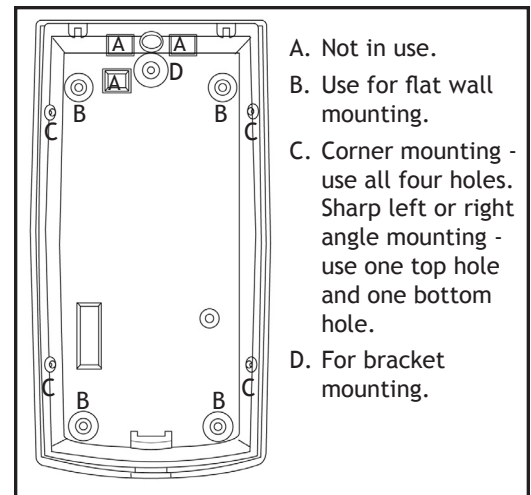

Figure 4: Knockout Hole Locations
3. Select and open the appropriate knockout mounting holes on the mounting bracket for the best mounting location. See Figure 4.